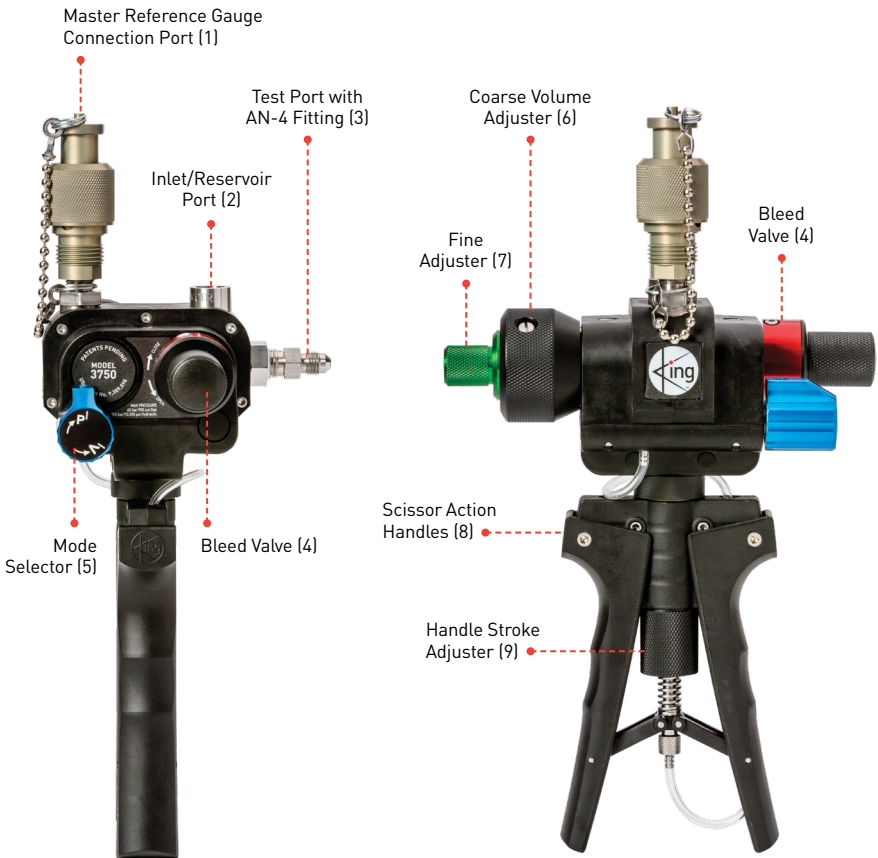

Fig. 3-1 Hand pump components and controls
The hydraulic reservoir assembly is a clear acrylic chamber that holds calibration fluid (typically distilled water) for operating the hand pump hydraulically. The hydraulic reservoir threads onto the inlet port on top of the hand pump (see Fig. 3-1). No tools are needed. The reservoir lid is secured with a knurled nut, and a check valve keeps fluid from leaking out the inlet when removed. If the reservoir becomes over-pressurized during use, the lid will vent pressure automatically. **When using the hand pump for both pneumatic and hydraulic work, use only distilled water in the hydraulic reservoir. Use oil as a hydraulic calibrating fluid ONLY if the hand pump is going to be dedicated for hydraulic oil use.**
Trapped air must first be eliminated in hydraulic test circuits. Use the following procedure to evacuate air and backfill hydraulic test circuits with fluid (typically distilled water). Figures 3-1 and 3-2 identify the parts by their reference numbers.
- 2) Turn the blue **Mode Selector** (Fig. 3-1, Item 5) to the **VACUUM** position **V**.
- a) Connect the test hose to the Test Port with AN-4 Fitting (Fig. 3-1, Item 3) on the hand pump. Use a wrench to tighten; use a second wrench to prevent the test port fitting from turning in the hand pump body. (See the optional Wrench Set, PN 3731-63-1, Table 6-1.)
- 6) Attach a master reference gauge for the appropriate calibration test range to the hand pump connection port (Fig. 3-1, Item 1). See MDPI, Table 6-1, for available King Nutronics gauges.
- 4) Attach a master reference gauge for the appropriate calibration test range to the Master Reference Gauge Connection Port (Fig. 3-1, Item 1).
- a) Connect the test hose to the Test Port with AN-4 Fitting (Fig. 3-1, Item 3) on the hand pump. Use a wrench to tighten; use a second wrench to prevent the test port fitting from turning in the hand pump body. [See the optional Wrench Set, PN 3731-63-1, Table 6-1.]